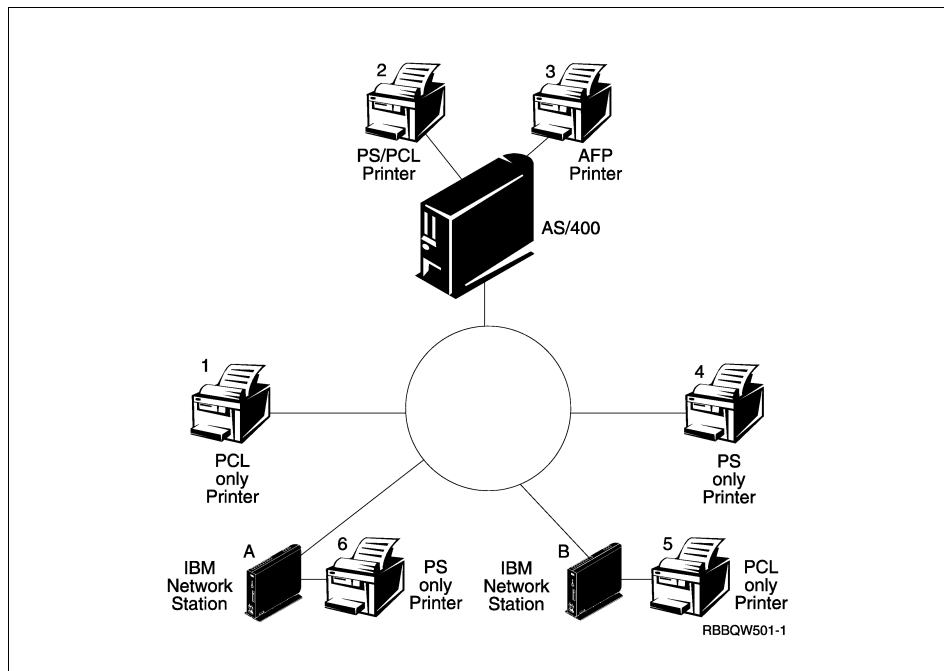

Figure 10. Possible Network Station Printing Scenarios
You can configure printers for your Network Stations with the IBM Network Station Manager program unless the datastream generated by the Network Station application does not match a datastream that your printer understands. Figure 10 on page 59 describes which datastreams the common Network Station applications produce. If your Network Station application does not produce a datastream that your printer understands, you must send the print job to an AS/400 server. The AS/400 server transforms the print job into the datastream of your choice.
Transforming print jobs requires OS/400 Version 4 Release 2 or later. For example, if Network Station A in Figure 10 on page 59 generates a print job from NC Navigator for Printer 1 (a Printer Control Language (PCL) printer), the Network Station cannot send its print job directly to the printer. Because NC Navigator can only generate PostScript (PS) datastreams, the Network Station must send its print job to the AS/400 server, which will transform the print job into a PCL datastream. A queue on the AS/400 server then sends the transformed print job to Printer 1.
For server-based applications, such as a 5250 application, you must configure a printer on the server where the application is running. In this case, think of the Network Station as only a window to the server, in that server still performs the work. In Figure 10, if Network Station A runs a 5250 session on the AS/400 server and you want to print to Printer 4, you must create a printer device description on the AS/400 server. The AS/400 server sends the print job to Printer 4. To create a printing device description on your AS/400 system, use the Create Printer Device (CRTDEVPRT) command.
Using Figure 10 as an example, Table 14 explains the basic steps to configure printers for your Network Stations. Identify the scenario that best meets your needs and follow the steps to configure your printers.
One technique is to have a server control the printers for your Network Stations. In Figure 10 on page 59, the AS/400 server can control a LAN printer, such as Printer 4. If Network Station A and B always sent their print jobs to the AS/400 server, the AS/400 server can control the flow of print jobs to the printer. This scenario reduces the work load on the Network Stations when the printer's buffer is full because the AS/400 server can negotiate print jobs with the printer. However, handling these print jobs can likely draw on the central processing unit (CPU) of the AS/400 server. This technique can hinder the server's performance depending on the size and frequency of your print jobs. Because you can send the print job from a Network Station, to a server, and then to a printer, this technique also increase network traffic.